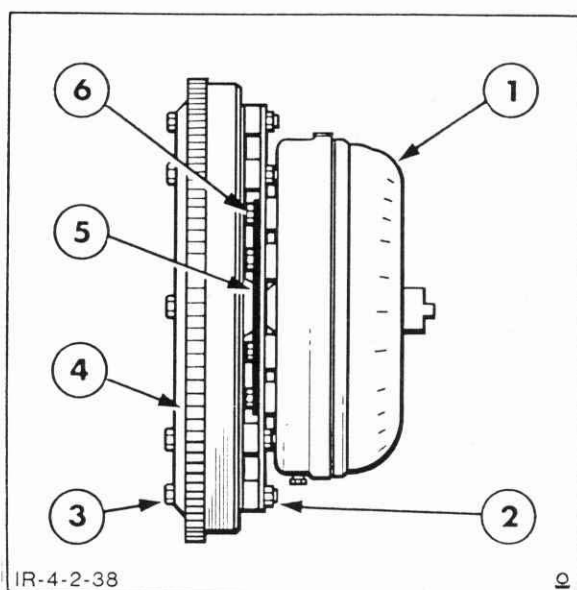

Figure 4-131
1. Remove the torque converter and drive plate from the stator support, Figure 4-131.